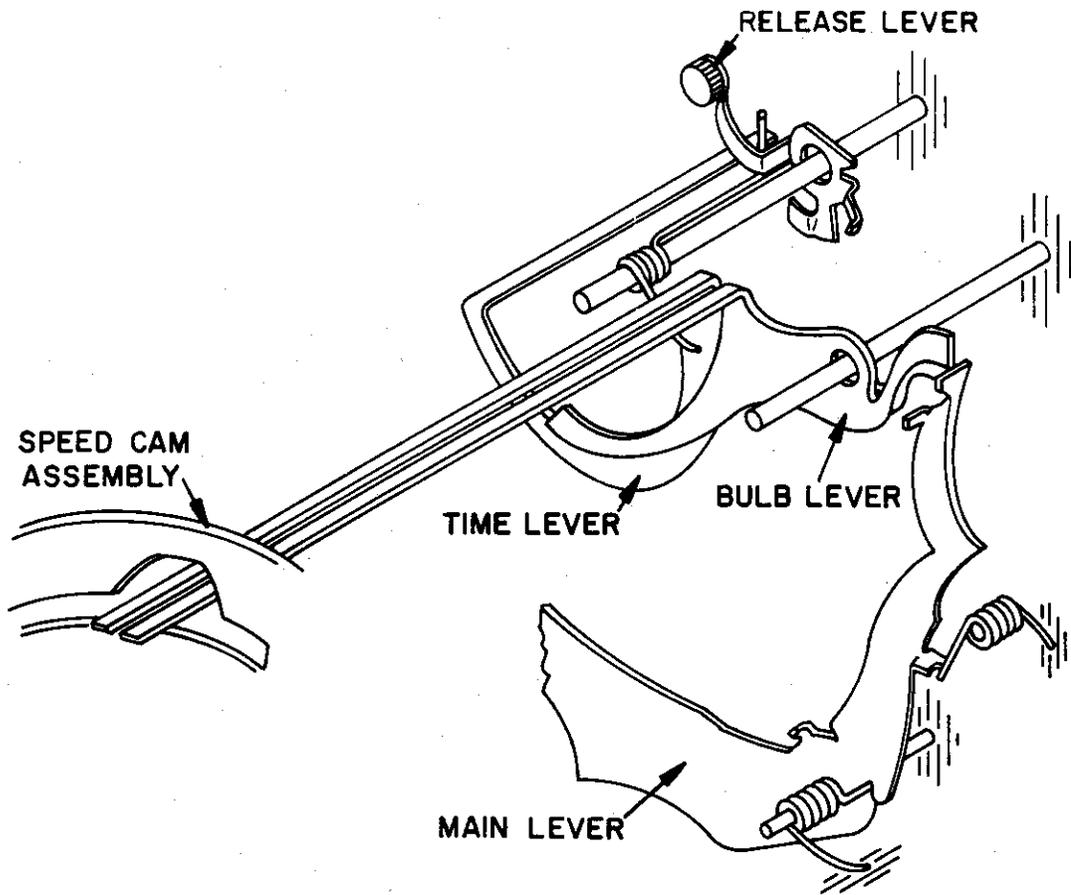

Figure 5. TIME AND BULB LEVER OPERATION
- (1) **No. 1 and 2 Shutters.** When the shutter is not cocked a lug on the focus lever bears on the main lever and prevents movement of the focus lever.
- (2) **No. 3 Shutter.** The lug on the focus lever engages with the stop lever which prevents movement of the focus lever when the shutter is not cocked.
6. Time Setting (fig. 5)
7. Bulb Setting (fig. 5)